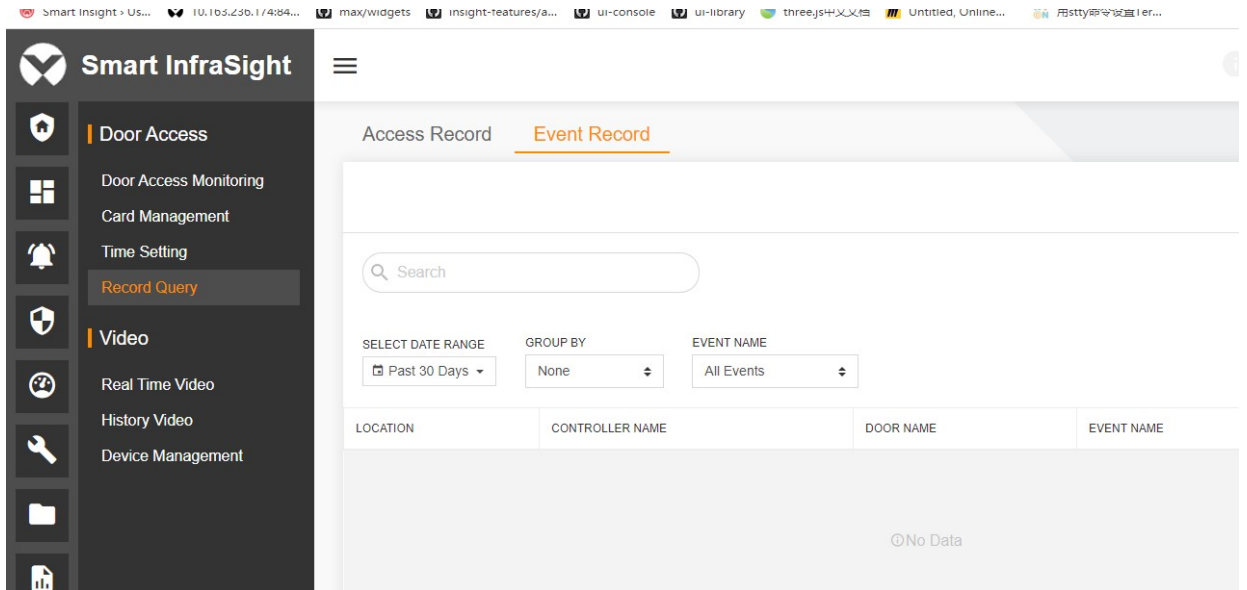

Figure 13-52 Event Record – Filter
4. Click  in the upper right corner of the list. The system displays the filter conditions. The filter conditions include **SELECT DATE RANGE**, **GROUP BY**, and **EVENT NAME**. Figure 13-52 shows the results filtered by setting **SELECT DATE RANGE** to **All** and **EVENT NAME** to **Reboot**.